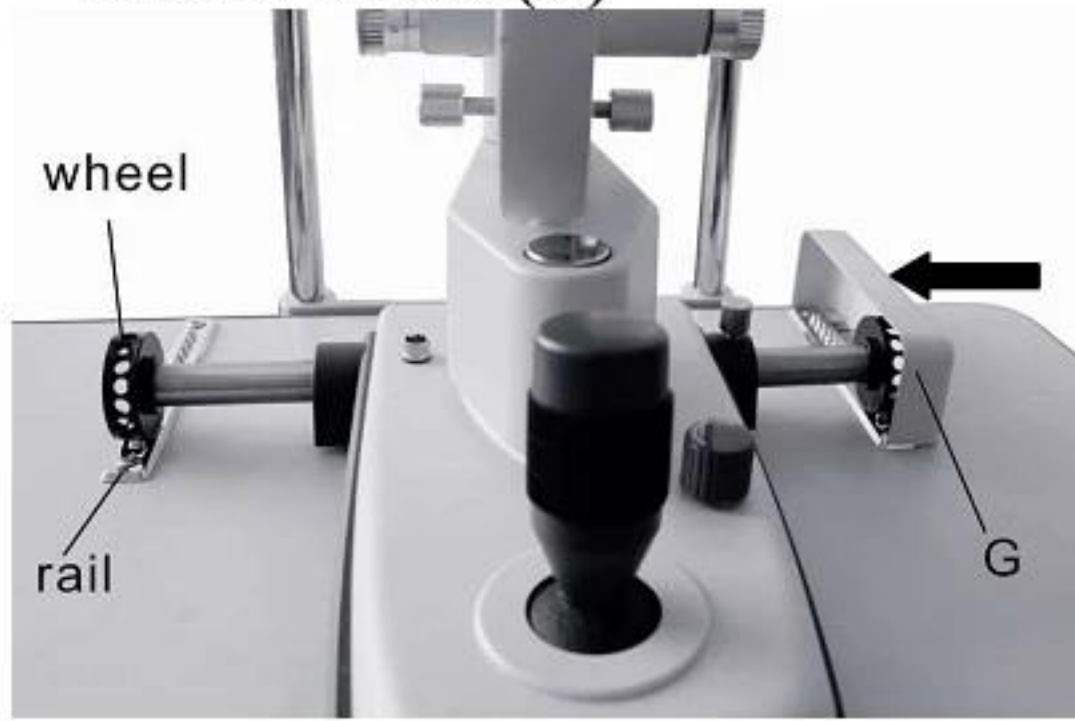
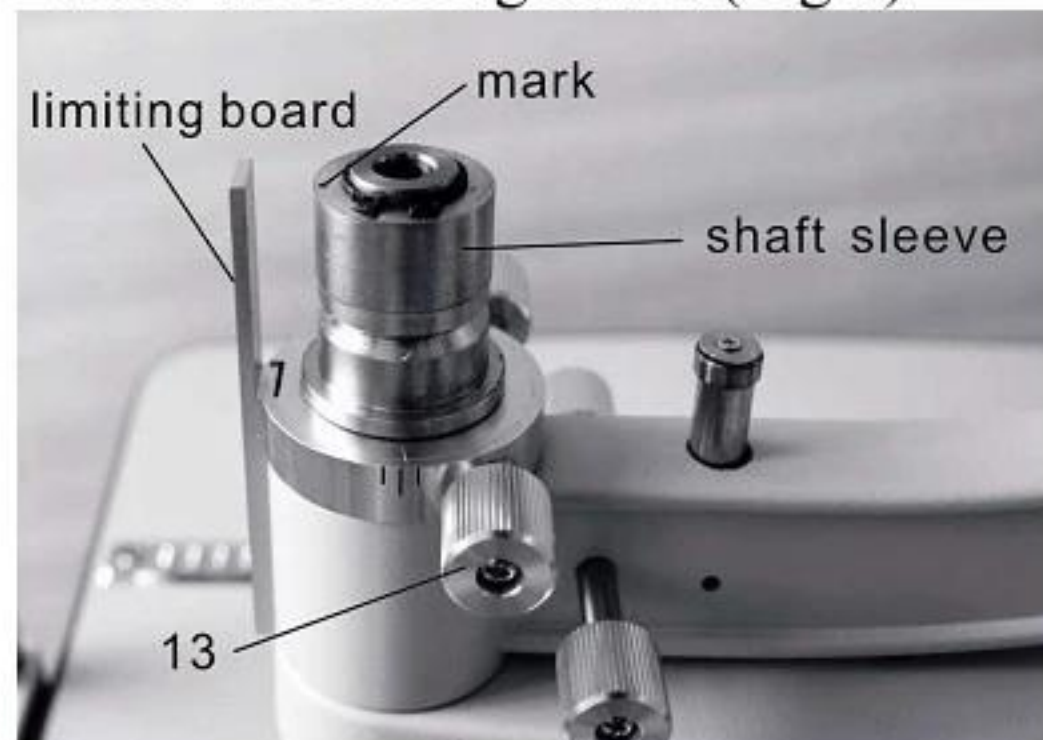

Fig.7
Fig.8
- ✧ Place the wheels of both sides of the base (C) on the rails on the worktable (Fig.7).
- ✧ Insert the bottom of the rail covers into the gap below the both sides of the rails respectively in the direction of the arrow (Fig.7).
5) Assembling illumination part (A)
- ✧ Loosen the illumination arm couple bolt (14).
- ✧ Rotate the brass shaft sleeve so that the red mark is 30 to 90 degree from the limiting board (Fig.8).